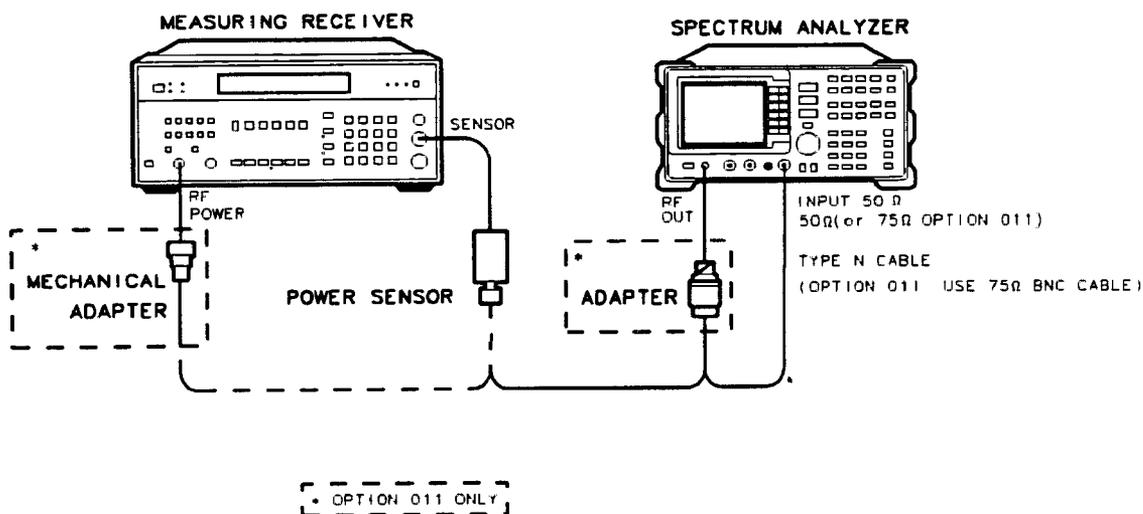

Figure 3-23. Absolute Amplitude, Vernier, and Power Sweep Accuracy Test Setup
1. Connect the Type N cable between the RF OUT 50 Ω and INPUT 50 Ω connectors on the spectrum analyzer. See Figure 3-23.
6. Disconnect the Type N cable from the RF OUT 50 Ω and connect the power sensor to the RF OUT 50 Ω as shown in Figure 3-23.